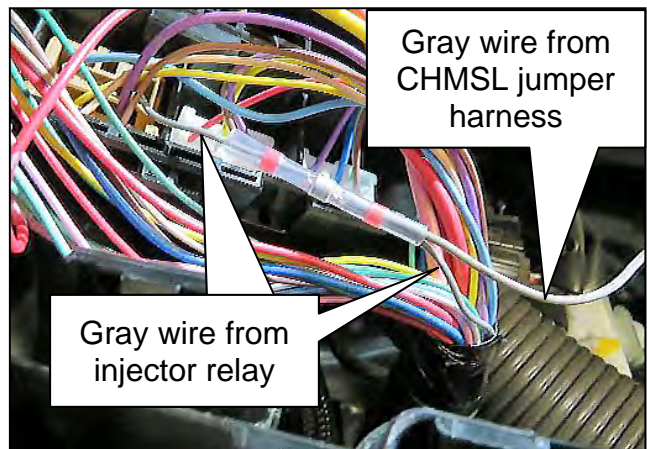
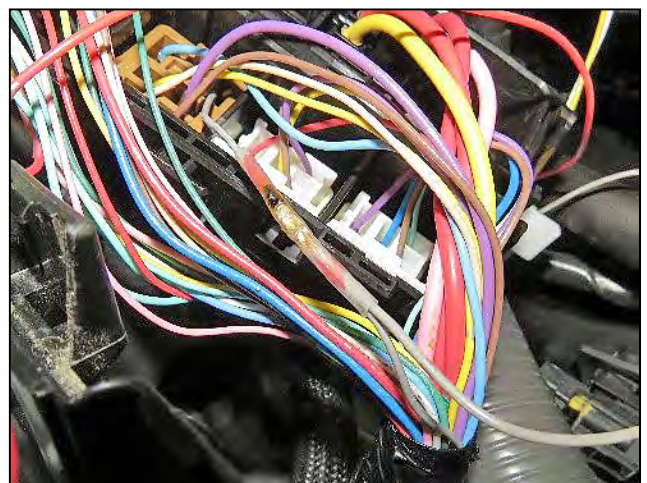

Figure 23
Figure 24
18. Twist together the gray wire from the CHMSL jumper harness and the gray wire from the injector relay connector and slide on a solder sleeve, as shown in Figure 23.
19. Insert the other end of the gray wire, from the injector relay connector, into the solder sleeve (Figure 23), and then using a flameless heat gun, special tool J-46538, heat the solder sleeve until the solder has been fully melted into the wires, as shown in Figure 24.